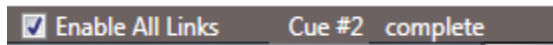

Figure 337
4. The **Status Bar** text in the bottom left part of the Spikemark screen is updated (Figure 337).